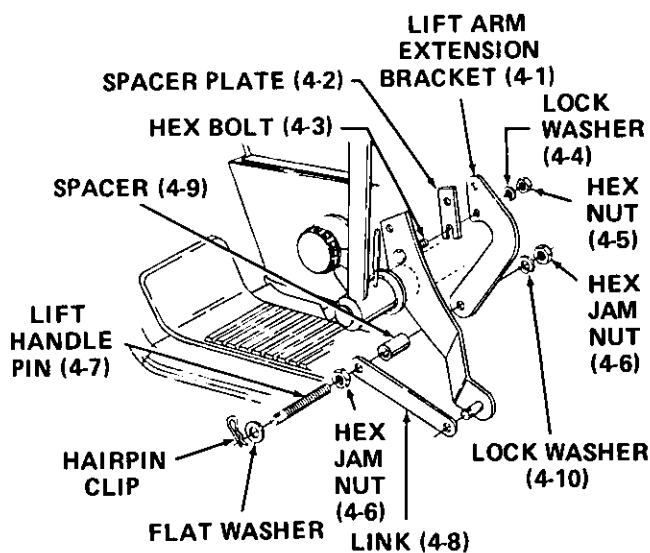

Figure 29
- b. Attach lift arm extension bracket (4-1) and spacer plate (4-2) to rockshaft lift arm using two hex bolts (4-3), lock washers (4-4) and hex nuts (4-5). Refer to Figure 29.